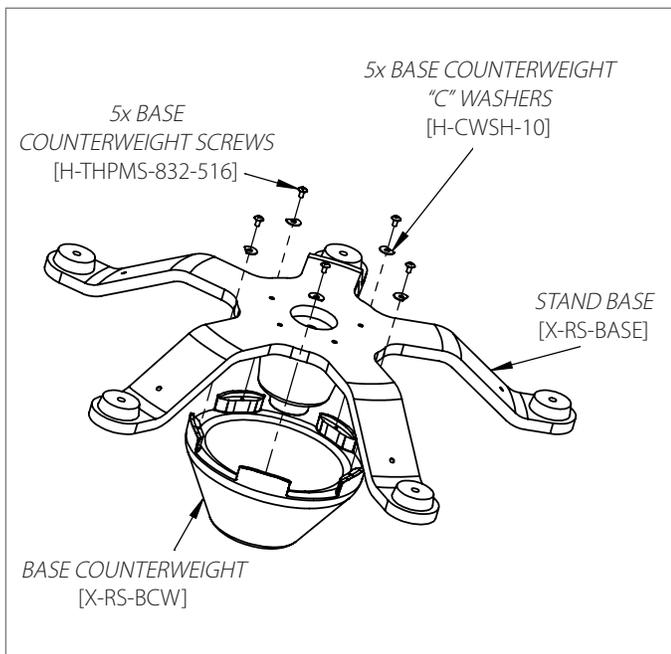

Figure 1
1. (Optional) For RS6/7 models, place the top of the *STAND BASE* into the bottom opening of the *BASE COUNTERWEIGHT*. Secure by inserting and tightening the five *BASE COUNTERWEIGHT SCREWS* through the five *BASE COUNTERWEIGHT "C" CLIPPED WASHERS* and into the *BASE COUNTERWEIGHT* screw holes using Phillips #2 head screwdriver (**Figure 1**).